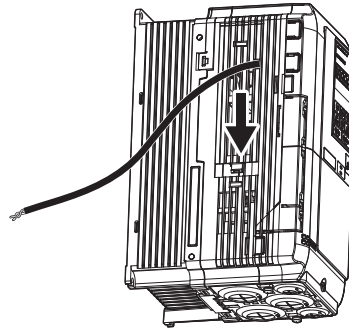

Figure 62 Reattaching the Connector Cover (2)
- Slide the connector cover back into place as shown in Figure 62.